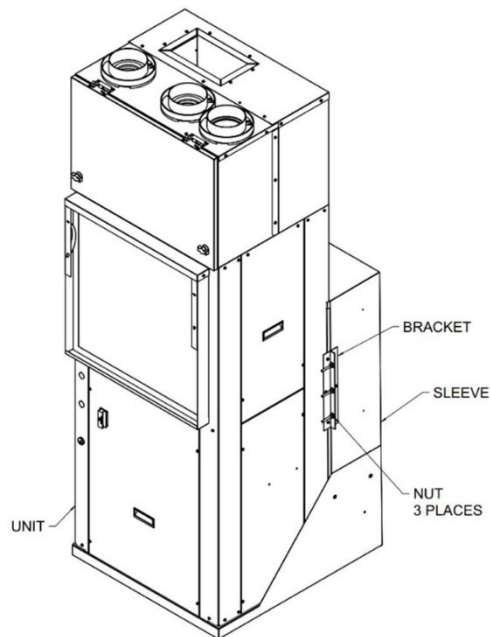

Figure 14 - Wall Sleeve Seal
9. After the seal is inspected, lift the unit onto the base of the sleeve and slide the unit forward to engage the seal. The unit uses locking brackets with weld studs. Align the unit to the bracket on the sleeve. Tighten down the unit until there is a tight seal with the sleeve. See **FIGURE 14 - Wall Sleeve Seal**.